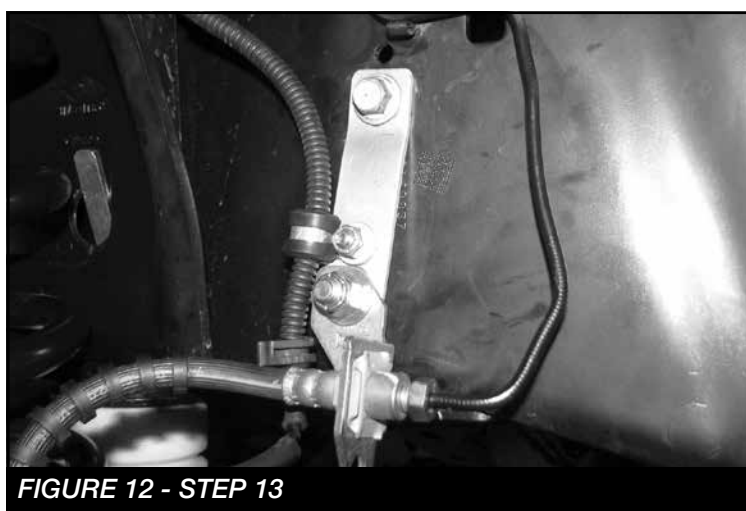

FIGURE 12 - STEP 13
13. Install FT30659 (Brake line bracket) to the factory brake line tab using the supplied 3/8" hardware (Use lower hole). Next, using the supplied rubber clamp and 1/4" hardware, attach the ABS line to the upper hole on the FT30659 bracket. Re attach to the frame using the factory hardware. Torque 3/8" & factory hardware to 52 ft-lbs. Torque 1/4" hardware to 14 ft-lbs. **SEE FIGURE 12**